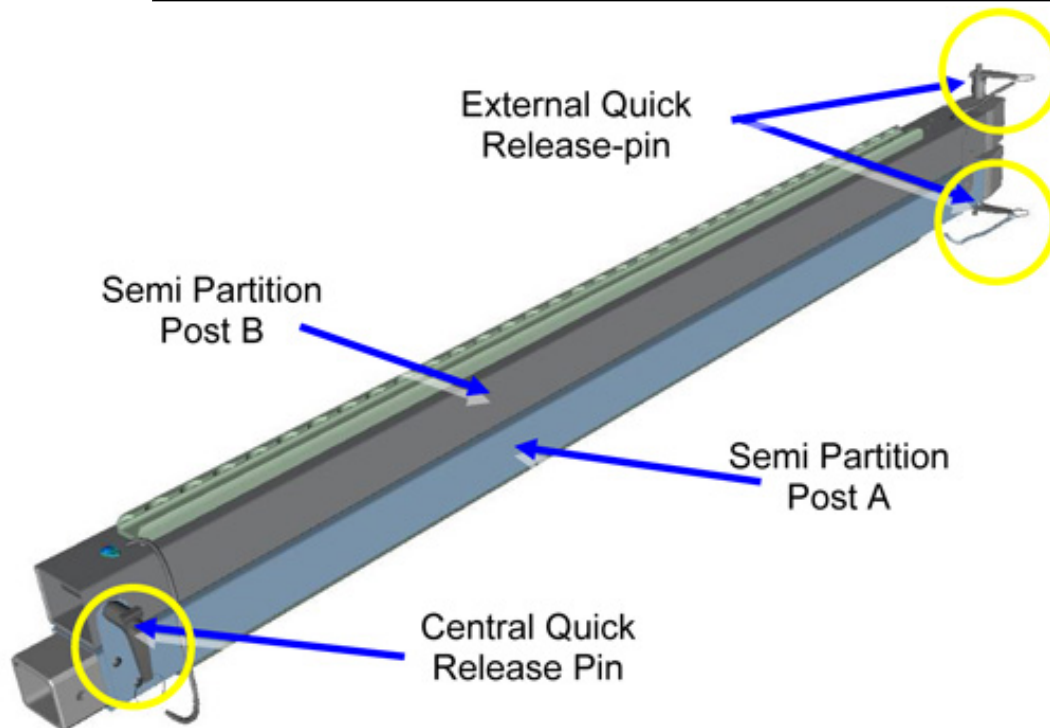

Figure 2-1 Folded Partition Post
1. Each Partition Post has to be unfolded before installation. Refer to Figure 2-1.
- 2.1 Remove central quick release pin, then unfold Partition Post. Refer to Figure 2-1.